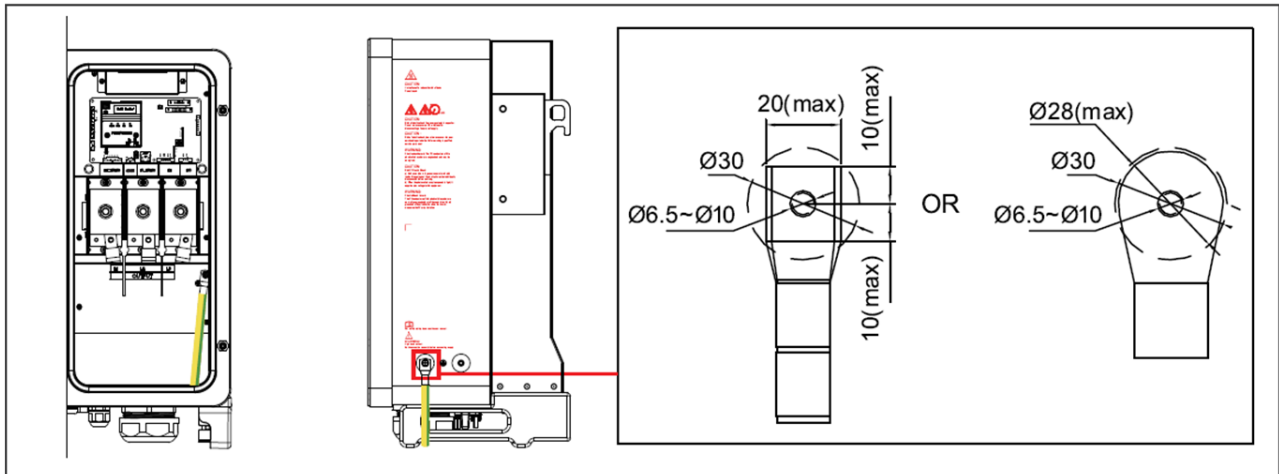

Figure 4-5 Grounding Methods
- Connect the internal grounding pole located on the right side of the AC terminal, as shown in Figure 4-5 on the left.
- Connect the external grounding pole located at the bottom of the machine next to the AC port, as shown in Figure 4-5 on the right.